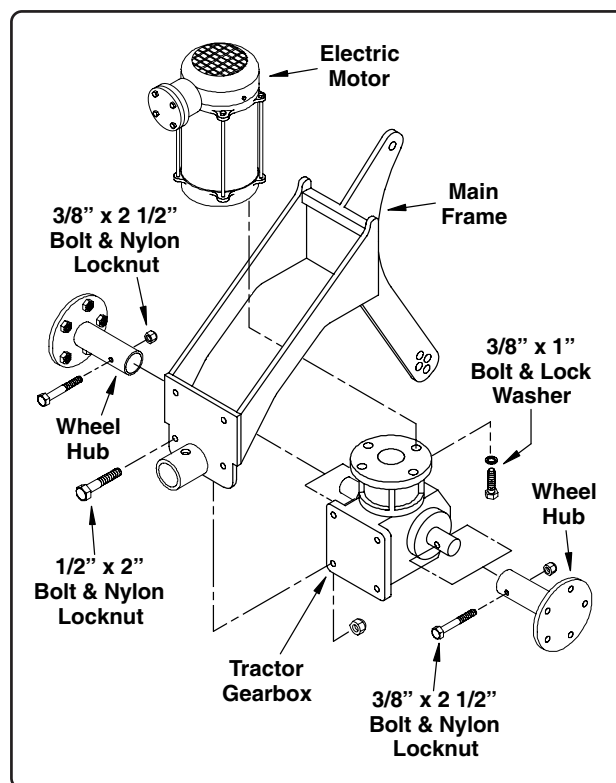

Fig. 21
1. Mount the tractor gearbox to the main frame as shown in Fig. 21. Secure using four (4) 1/2" x 2" bolts and nylon locknuts.
2. Mount the electric motor to the top of the gearbox and secure using four (4) 3/8" x 1" bolts and lock washers (the bolts will screw into the bottom side of the motor, See Fig. 21).
3. Slide a wheel hub onto each of the shafts located on the sides of the gearbox. Secure each hub with one (1) 3/8" x 2 1/2" bolt and nylon locknut.